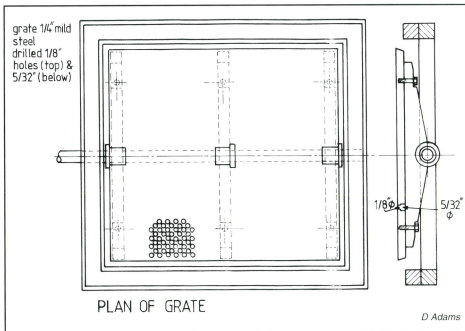

Figure 3
African loco **RED DEVIL**, but did you know about the **RED DRAGON**? I must confess that I didn't until I read this particular article. The **RED DRAGON** was a 2ft gauge (610mm) NGG16 Garratt (No. 141) owned by Alfred County Railway (SA). The article mentions the various modifications carried out on two particular Garratts, nos 141 and 155, both NGG16 class but only one was painted red. The piece that got my attention was about the fire grate. It's called the Pin Hole Grate, which, going by the description in this article, is the same grate that Keith Bradford has installed in his 5" gauge Fyansford Cement Co Garratt. See **Figures 3 and 4** and see **AME** issue 88, page 32 for a drawing showing size, spacing and layout of the holes.